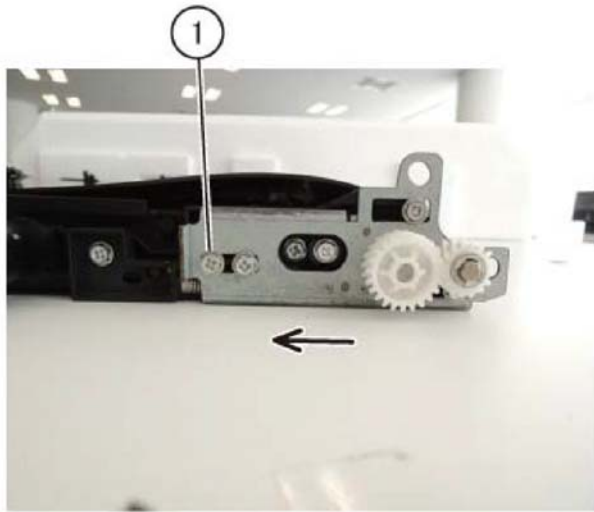

Figure 6 Rear tension plate
9. Move the rear tension plate towards the direction of the arrow and maintain a loose IBT belt tension. Put the removed screw in the frame hole, Figure 6.